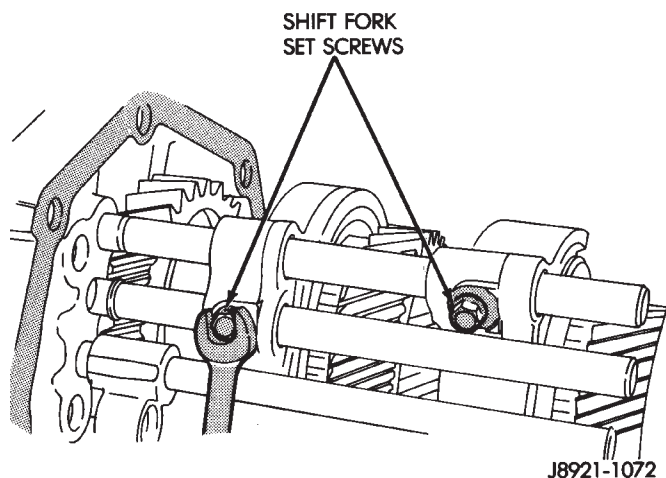

Fig. 70 Remove Shift Fork To Shift Rail Bolts
(22) Remove bolts holding 1-2 and 3-4 shift forks to the shift rails (Fig. 70) and discard bolts.